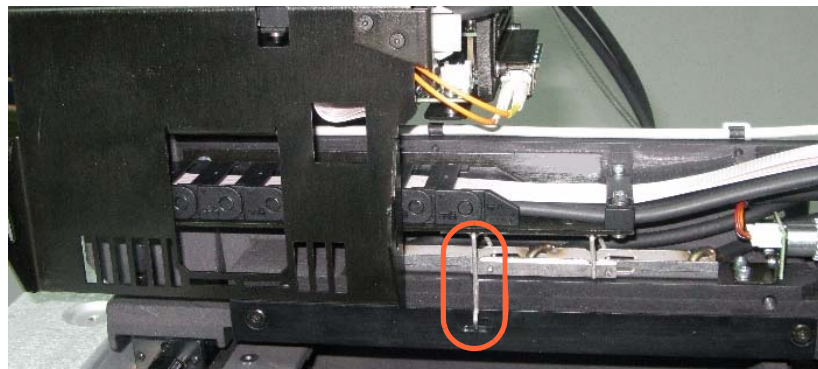

Figure 6-42: Roller-waste-collector locking pin
3. Turn the locking pin clockwise, to lower the drain-tube bracket onto the roller waste collector, and secure the pin in its socket (see figure 6-42 on page 31).